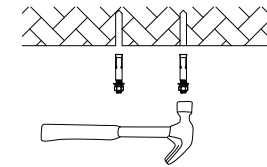

Figure4
2. Fix screw into the hole with a hammer(Figure4).